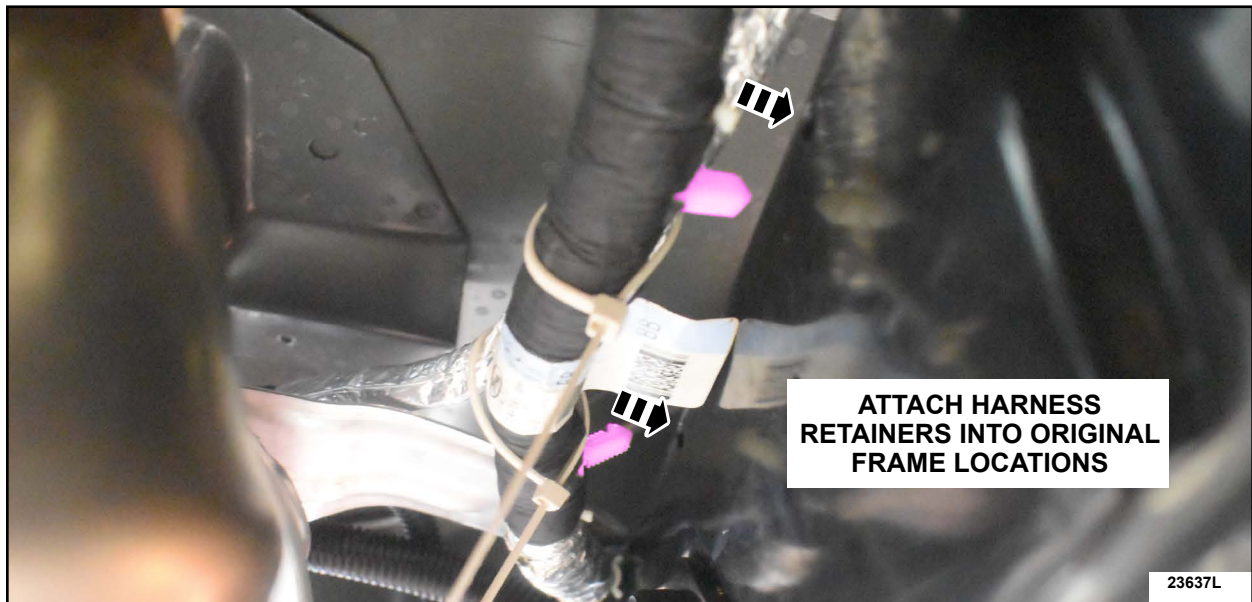

FIGURE 10
8. Attach both *new* clips into their original locations in the frame. See Figure 10.